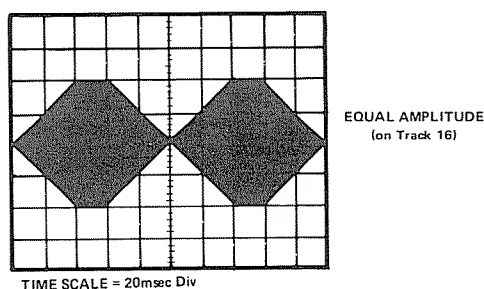

FIGURE 12. "CAT EYES" PATTERN
3. Read track 16 and verify the "cat eyes" pattern as shown in Figure 12. The smaller of the two "eyes" should not be less than 75% amplitude of the other. $\% = (\text{small lobe}/\text{larger lobe}) \times 100$.